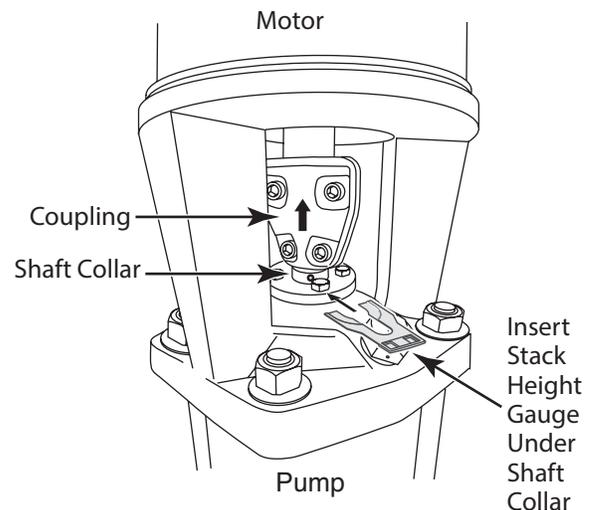

Figure 7 - Using the stack height adjusting tool
12. **BVM(I/X)1-BVM(I/X)20:** Reinstall the shaft pin (72) if your pump has one. Raise the height of the pump shaft by using the shaft pin (72) as a lift point (you may have to put a block under the pin and lift with a flat screwdriver). Insert the stack height adjustment tool (see Figure 7) in below the shaft collar and let the shaft collar rest on it. **BVM(I/X)33:** Pick up the shaft (if necessary, temporarily reinstall the coupling to provide a grip to lift by) and insert the stack height adjustment tool (see Figure 7) below the shaft collar. Let the shaft collar rest on it.